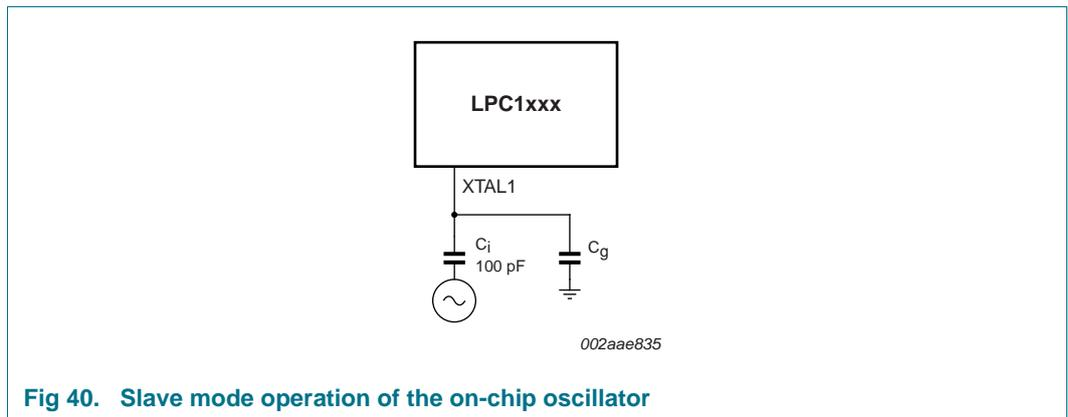

Fig 40. Slave mode operation of the on-chip oscillator
- In slave mode, couple the input clock signal with a capacitor of 100 pF (C_C in Figure 40), with an amplitude of at least 200 mV (RMS). The XTAL2 pin in this configuration can be left unconnected.